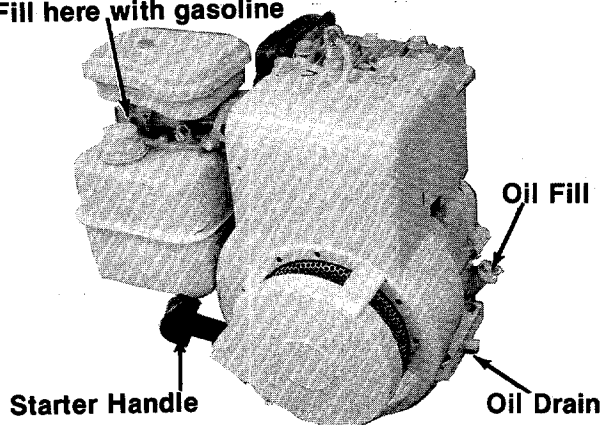

FIGURE 12.
3. Move throttle control lever forward to "START" position. See figure 12.
1. Move throttle control lever to "STOP" position. See figure 12.